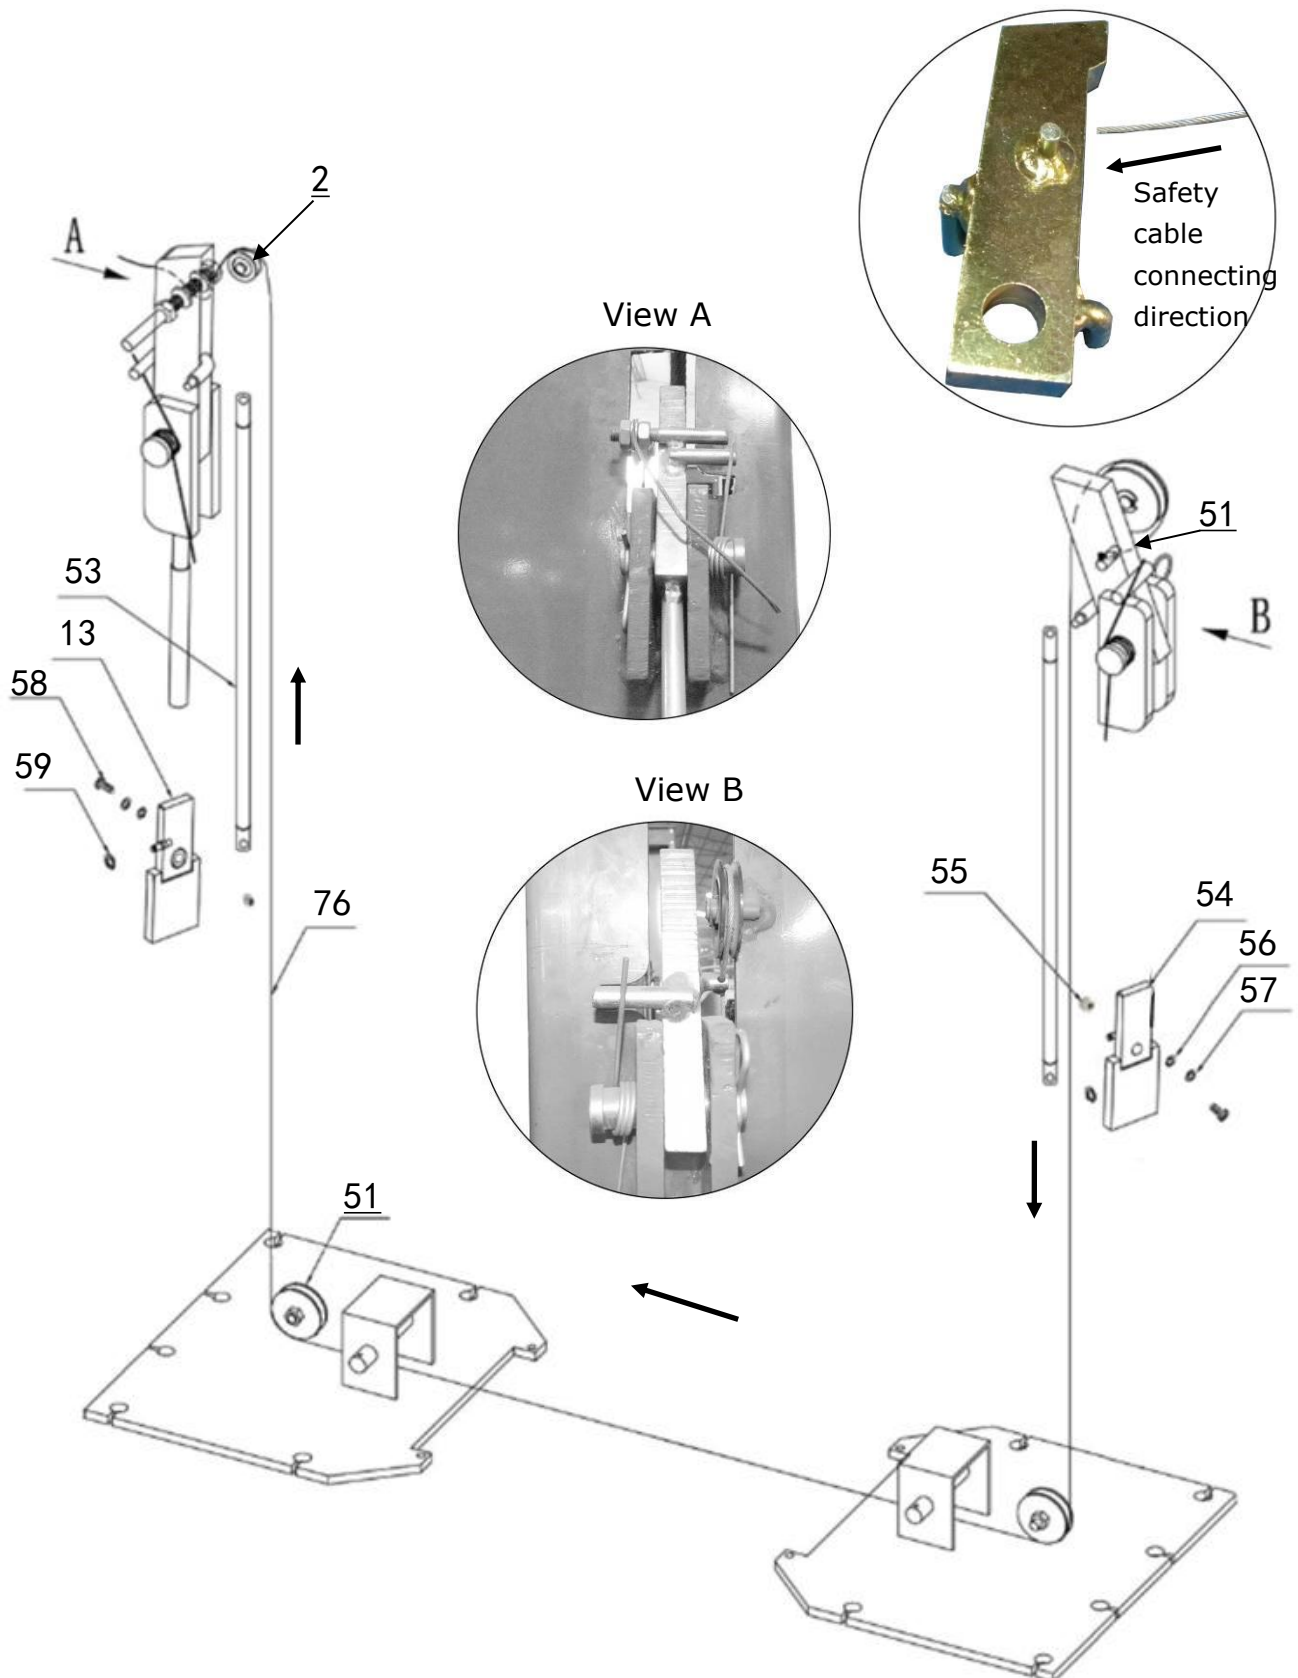

Fig.23
L. Install lock release cable (See Fig. 23).